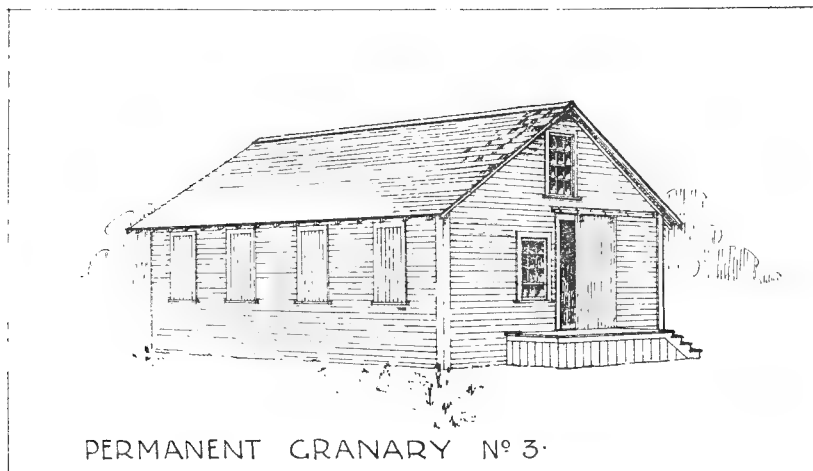

Figure 9. It is 22 feet wide and 30 feet long with a bin capacity of 2500 bushels. The bins are filled from the outside. Suitable for a half-section farm.
**PERMANENT GRANARY No. 3. FIGURES 9 AND 10.**
In Figures 9 and 10 a permanent granary suitable for a half-section farm is shown. It is 22 feet by 30 feet and will hold approximately 2500 bushels in the 11 separate bins. The bins are filled from the outside through small doors near the top of the wall and they all open into the central floor space which is intended to be used for cleaning, weighing and treating the grain. The large number of bins make it possible to keep the different kinds and varieties of seed grain separate. At the front to the left of the door, a space has been left for placing a small portable engine which can be used for running either a chopper or a fanning mill. The flooring from the door sill is sloped as far as the end of the first bin, with a grade of 1 foot in 8 feet. The unloading platform in front of the doorway is about 2 feet 6 inches from the ground or nearly on a level with the bottom of a wagon box. This is much more convenient than a low sill when seed grain in bags has to be loaded into a wagon.